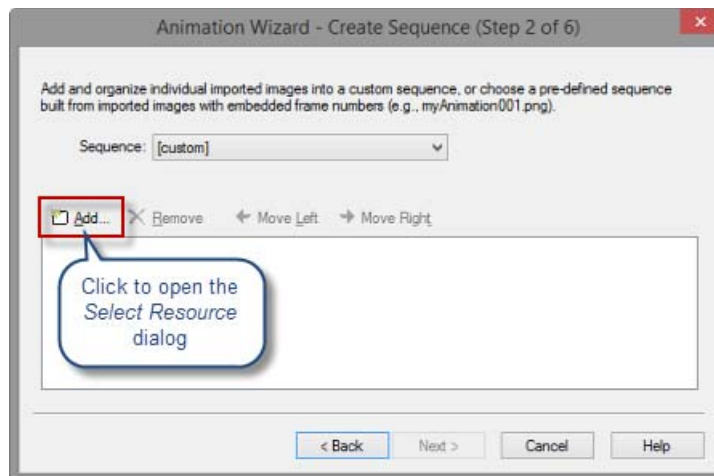

FIG. 301 Animation Wizard - Create Sequence (Step 2 of 6) dialog
2. Click **Next** to proceed to the *Animation Wizard - Create Sequence (Step 2 of 6)* dialog (FIG. 301):